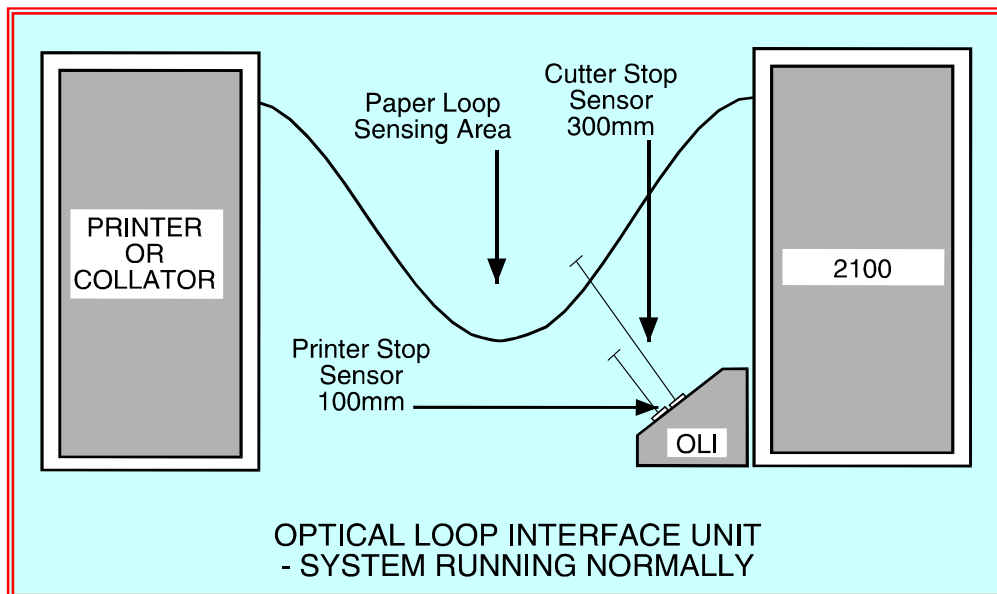

Fig 1.3 Operating States
- The way that the optical loop interface unit controls the paper is illustrated in Fig 1.3. Position the unit centrally between the ancillary units as shown.